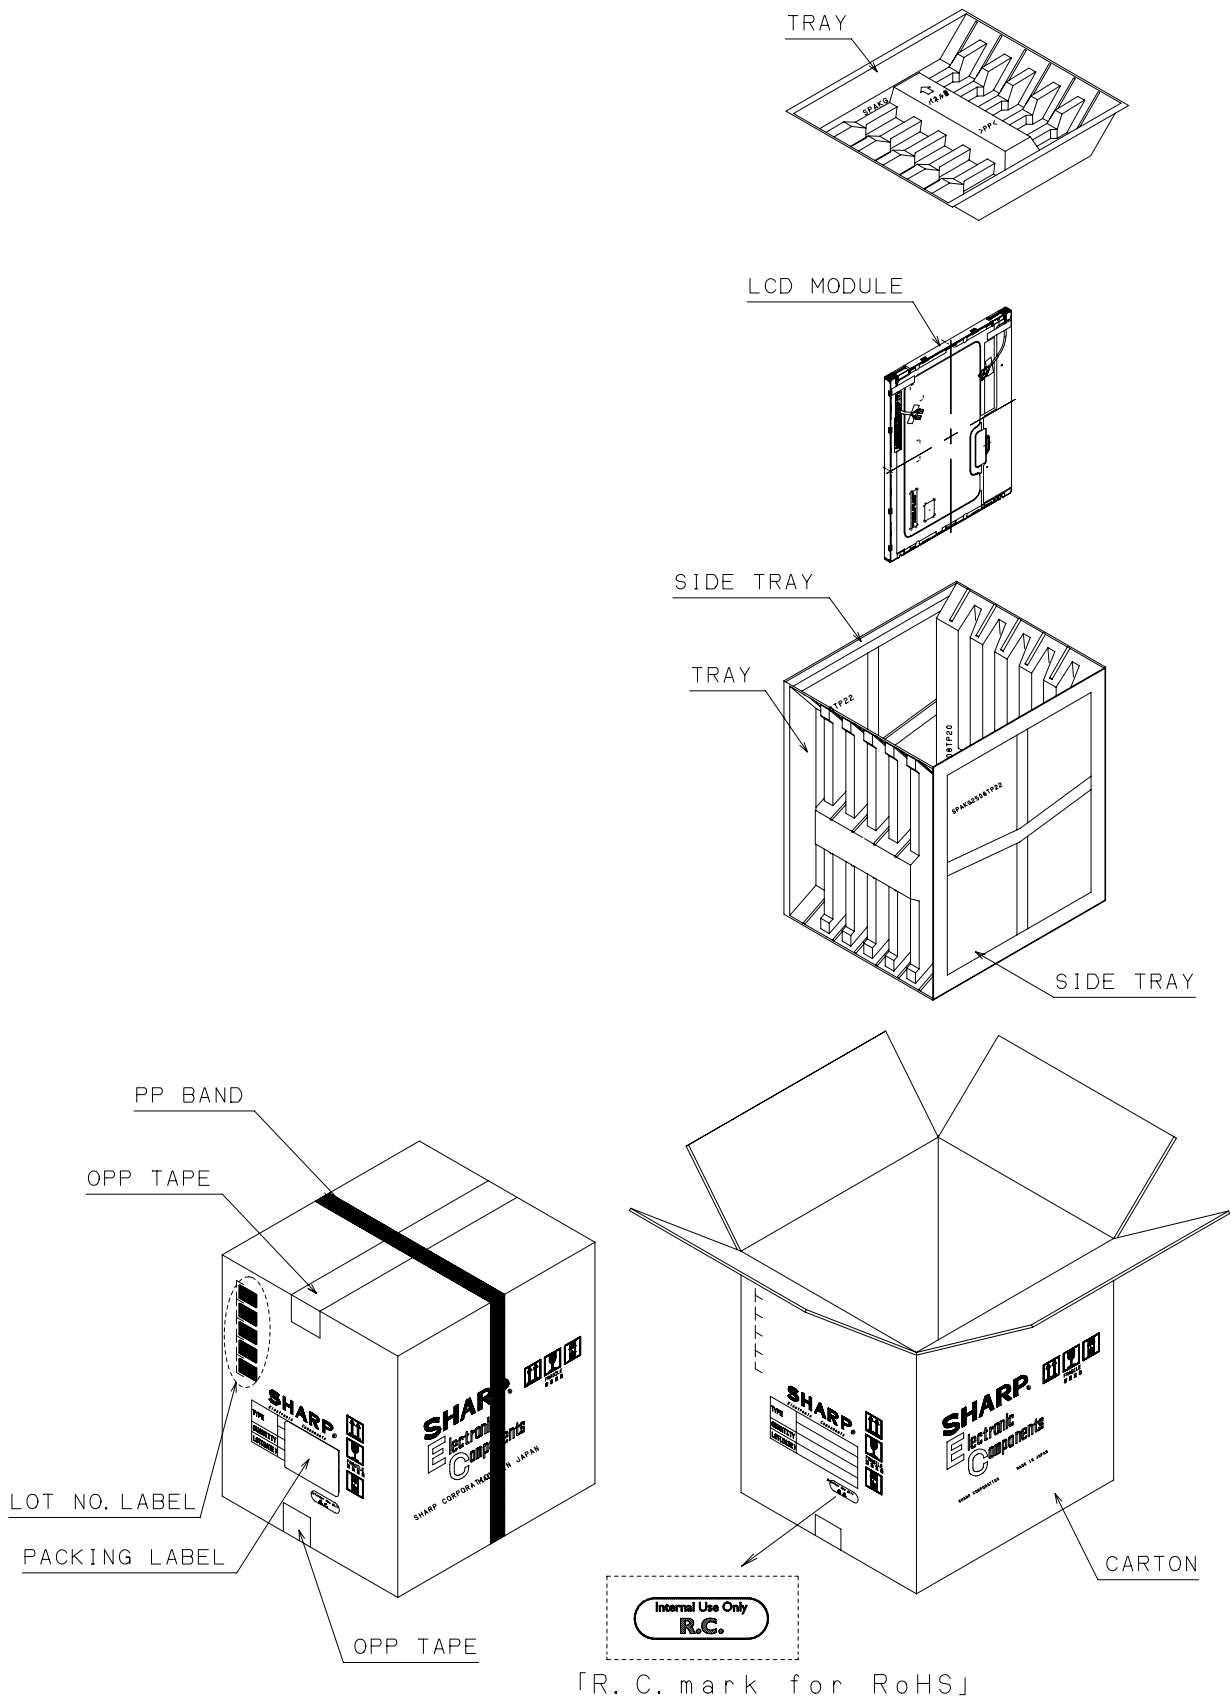

Fig. 3 : PACKING FORM
- e) Packing form is shown in Fig.3